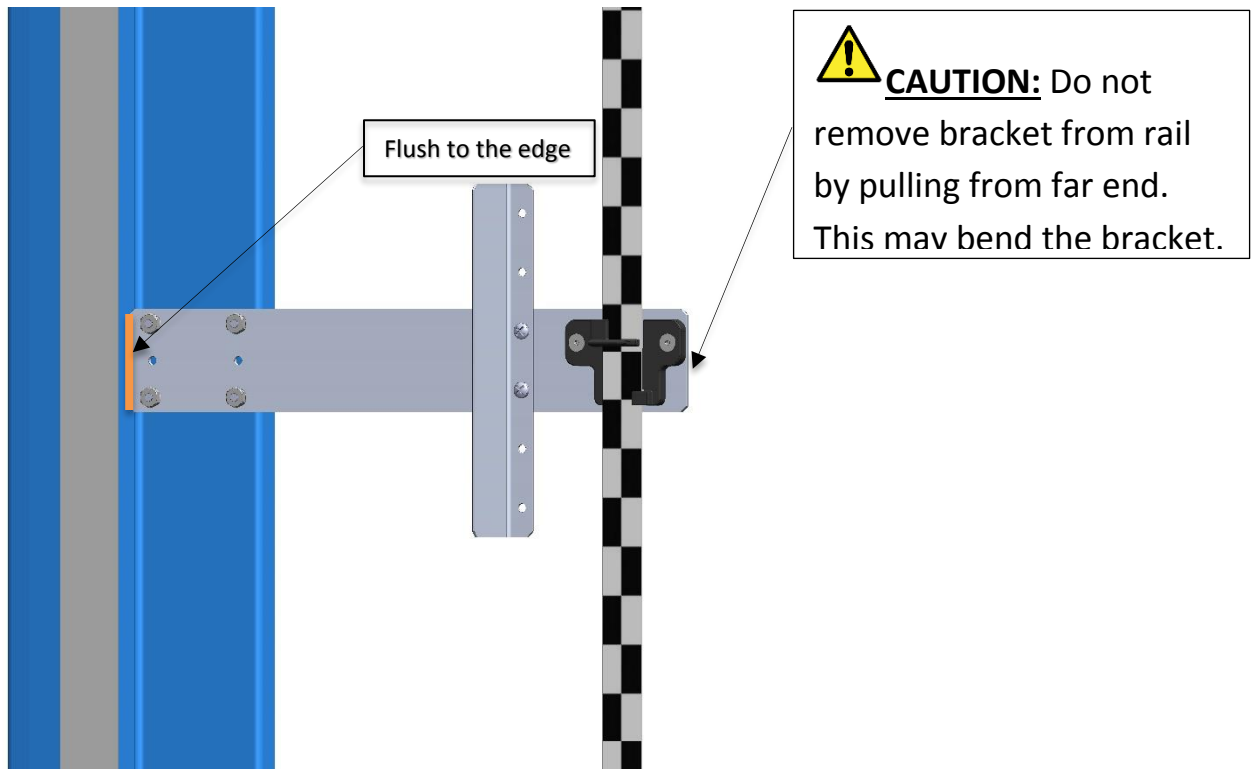

Figure 13: Tape Clip Assembly Alignment
- Ensure that the assembly is sitting flush to the rail as shown in Figure 13.